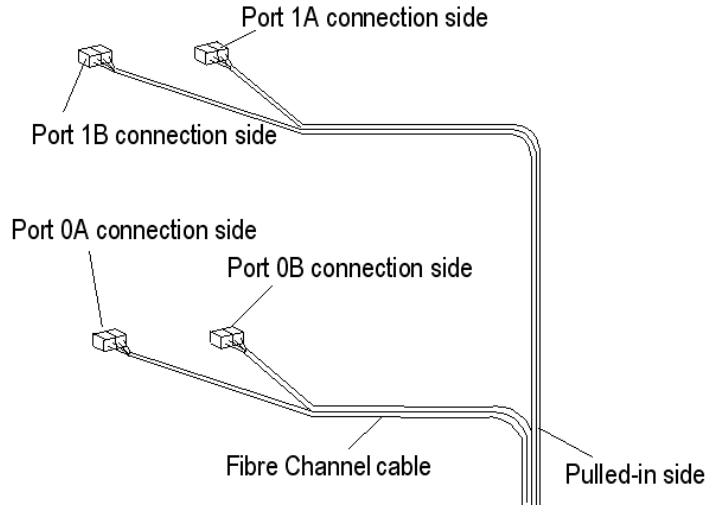

Figure 5-46: Binding Fibre Channel Cables Together.
3. Using the reusable cable ties provided, bind the cables together and fasten them securely to the rack at enough places to keep the cables close to the rack over their entire length. Leave extra length for each cable so that the connectors will not be pulled out of the sockets. See Figure 5-46.